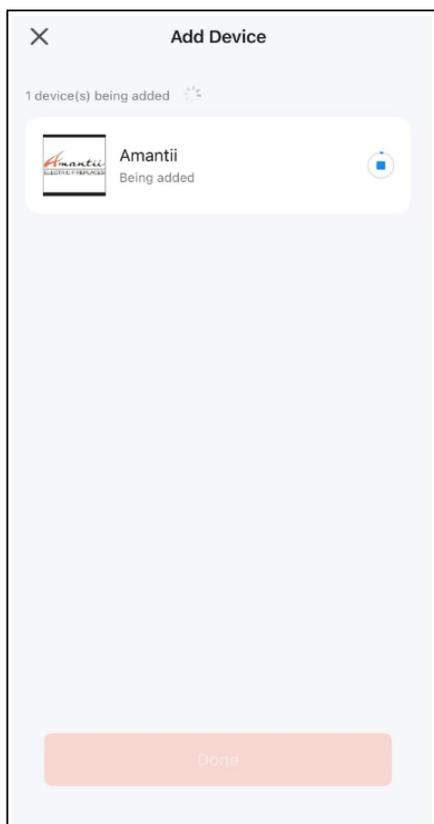
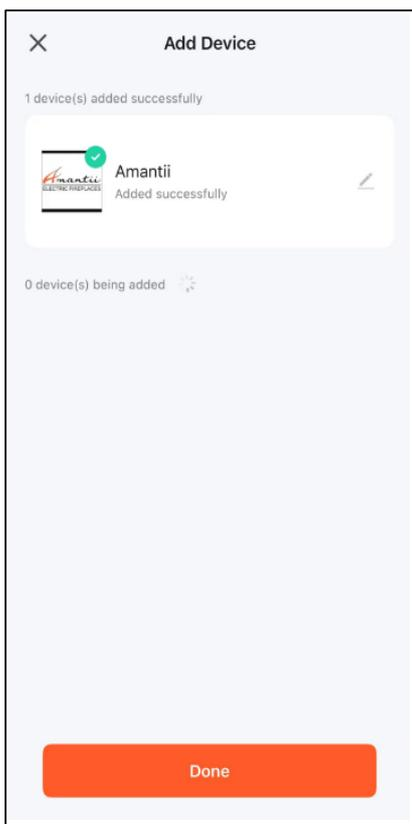

FIG.10
FIG.11
5. Download the device (FIG. 10). Touch “Done” (FIG.11) to operate the fireplace via Wi-Fi (FIG.12).